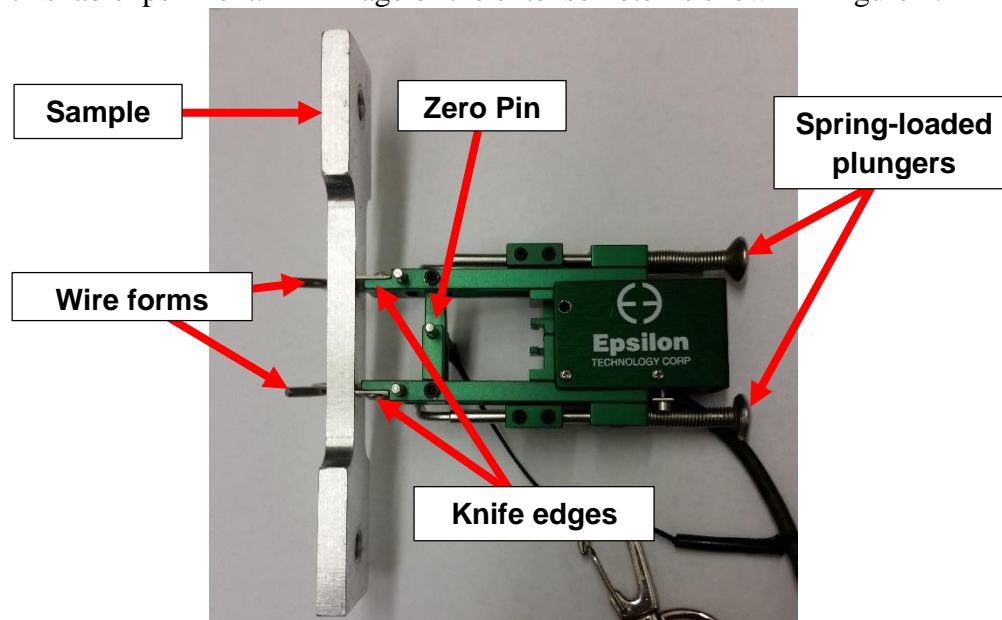

Figure 1. Epsilon Extensometer 3542 with aluminum test sample.
5. Obtain the extensometer from the course assistant and do not install it without his or her supervision. The extensometers are very expensive (~\$1200) and critical to the success of this lab experiment. An image of the extensometer is shown in Figure 1.
12. Ensure that the zero pin has been placed in the extensometer. Refer back to Figure 1 for where the zero pin is located.
13. Attach the extensometer to the sample. Refer again to **Figure 1** above. Depress the two spring-loaded plungers at one end of the extensometer so that the wire forms at the other end expand to fit the specimen. Place the wire forms around the sample and release the springs. Make sure that the knife edges are flat against the sample and are aligned, centered and perpendicular to the edge. This ensures good data and that the extensometer will not fall off the specimen when it breaks.